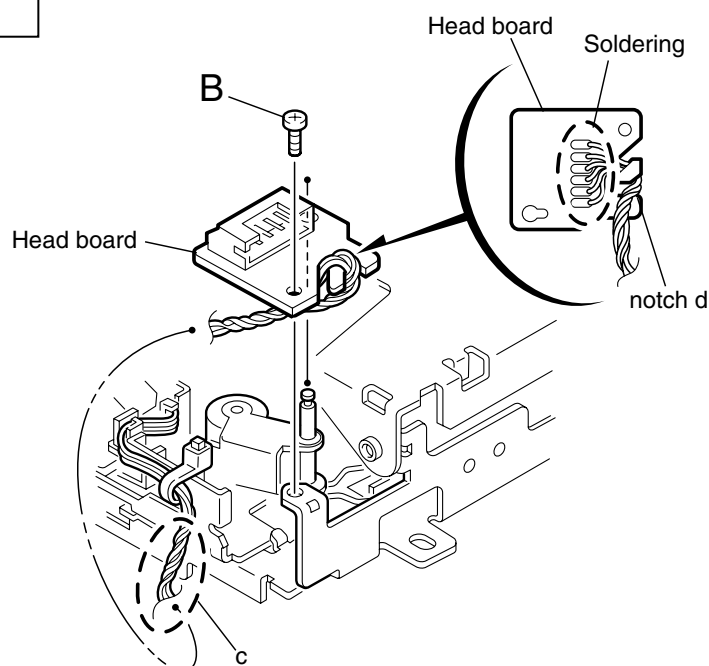

Fig.4
■ Removing the head board (See Fig.4)
REFERENCE: When reassembling, twist the wires by turning the head board twice remarked **c** and pass through the notch **d** as shown in Fig.4.